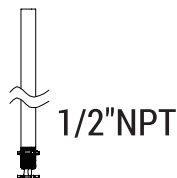

FIGURE 8
1. Unscrew the nuts on 1/2" NPT (Figure 8)